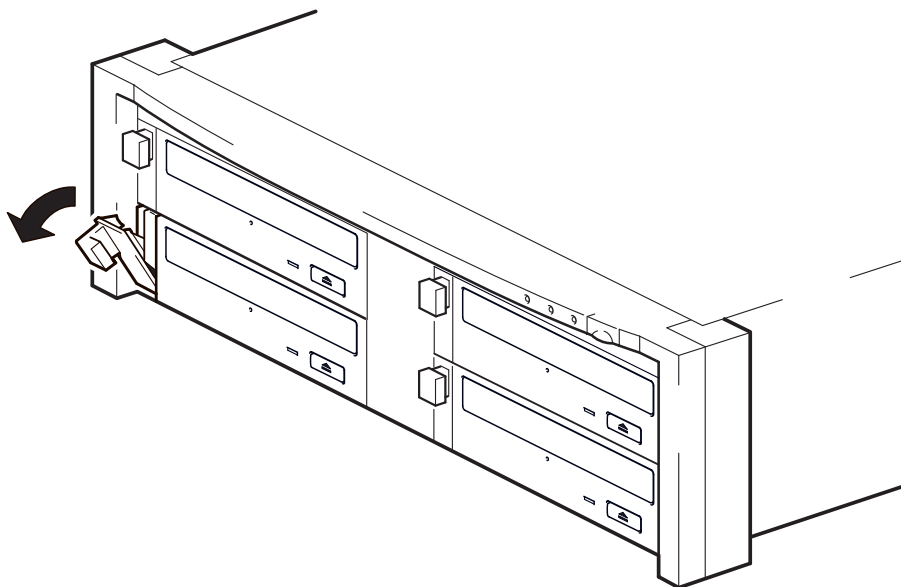

Figure 5a: pulling out the extraction lever
- 1 Pull the extraction lever of the drive that you want to replace so that it is in the out position. (See figure 5a.)